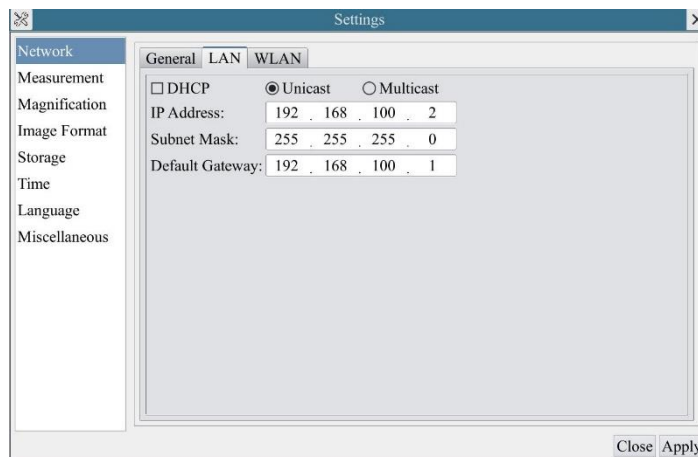

Figure 5-5 Manual DHCP and Unicast
- Subnet Mask Users must manually configure their IP addresses on the camera side and computer side. The IP addresses set on the camera side and computer side should be in the same network segment. The specific settings are shown Figure 5-5. It's usually a private address. Private address is a non-registered address used exclusively within an organization. The internal private addresses retained are listed below: Class A 10.0.0-10.255.255; Class B 172.16.0-172.31.255.255; Class C 192.168.0-192.168.255.255. The suggested IP address is Class C.